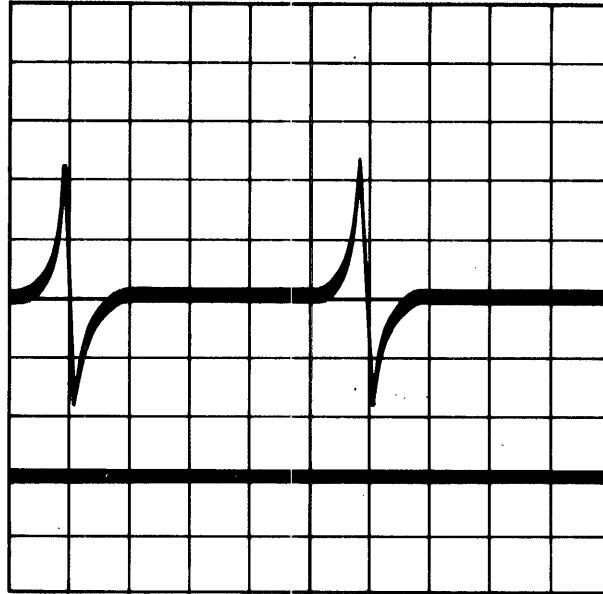

Figure 5-29. Cartridge Sector/Index Alignment Waveshape
- H. The waveform at pin \bar{M} of the extender card should have a minimum output of 300 millivolts base-to-peak with a maximum overshoot (baseline noise) of 50 millivolts as shown in Figure 5-29. This will also be the waveform at the output of the differentiator board on the Series F.
- J. If the waveform polarity does not agree with that shown in Figure 5-29, reverse the position of the two transducer leads on connector P12.
- G. After the spindle has come up to speed, verify that the waveform at pin \bar{P} is clean with a minimum amplitude of 300 millivolts base-to-peak. (Ref. figure 5-29 for a picture of a normal oscilloscope display.) The pulses should be positive-going. Use logic ground at the top of C7 and/or C14 for a reference.
- H. Verify that the waveform on J33 pin 1 of the differentiator PWB is clean as shown in Figure 5-29. The waveform amplitude should be 130 millivolts base-to-peak (minimum).